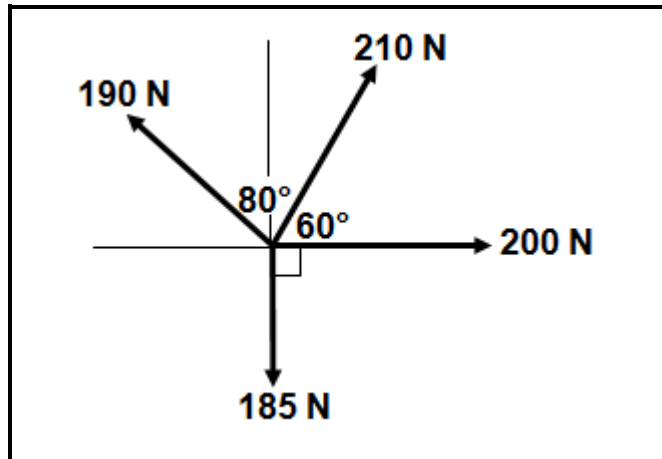

FIGURE 7.1
7.1 Four forces are acting on the same point. Determine, by means of calculations, the magnitude and direction of the resultant force for the system of forces in FIGURE 7.1 below.